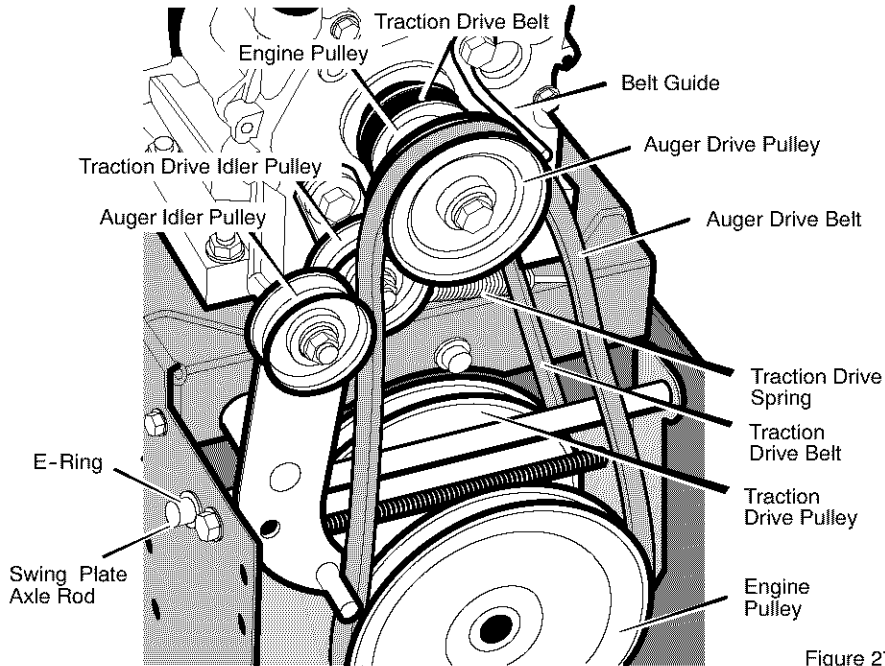

Figure 27
3. Loosen nut on auger idler pulley and move auger idler pulley towards belt about 1/8 inch (3 mm) (see Figure 27).
### 5. Loosen the **belt guide**. Pull the **belt guide** away from the **auger drive pulley** (see Figure 27).
3. Remove the **e-ring** from one end of the **swing plate axle rod**. Remove the **swing plate axle rod** to allow the the swing plate to pivot forward (see Figure 27).